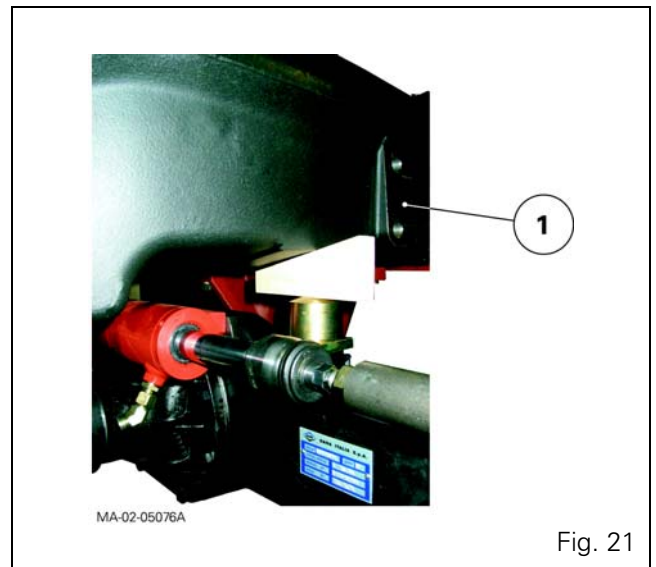

Fig. 21
46. Stop the front axle oscillation by sliding a suitable wooden chock either side of the support (1) (Fig. 21).